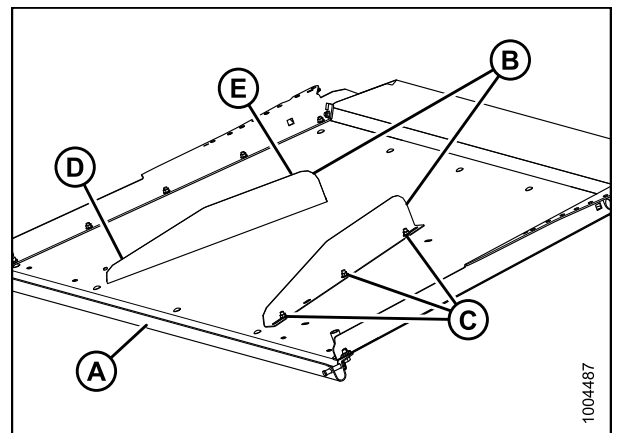

Figure 6.26: Center Deflectors
Orient deflectors (B) so that narrow end (D) is toward the front of the cover (A) and deep end (E) is toward the rear as shown in Figure 6.26: Center Deflectors, page 35.